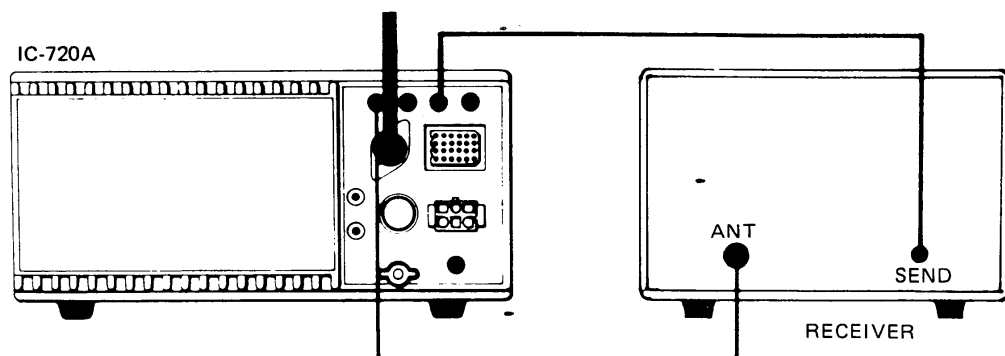

**Fig. 1 Connection of a pre-amplifier**
1. A receiving pre-amplifier. (Fig. 1)